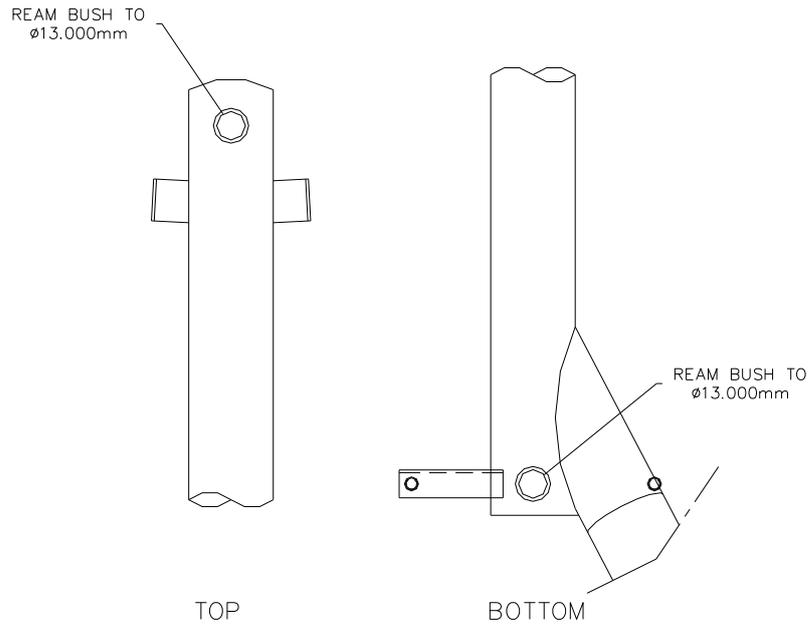

Figure 4
5. Using a H7 fit 13mm reamer, ream out the existing upper and lower control column bushes. Refer to Figure 4. It is important that this size reamer be used as the bronze shafts supplied have been machined to a normal running fit based on a 13mm bore size.